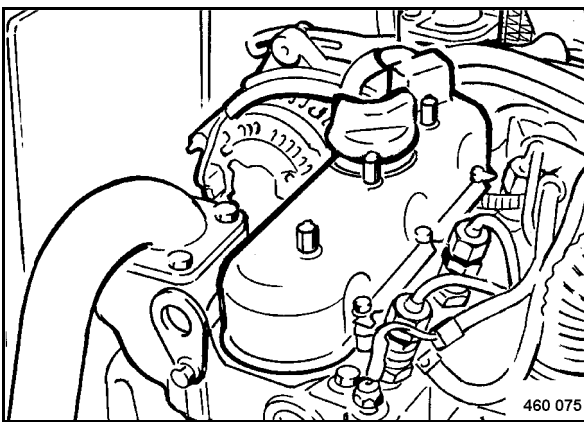

Fig. 117
- Remove the cylinder head cover (Fig. 117).